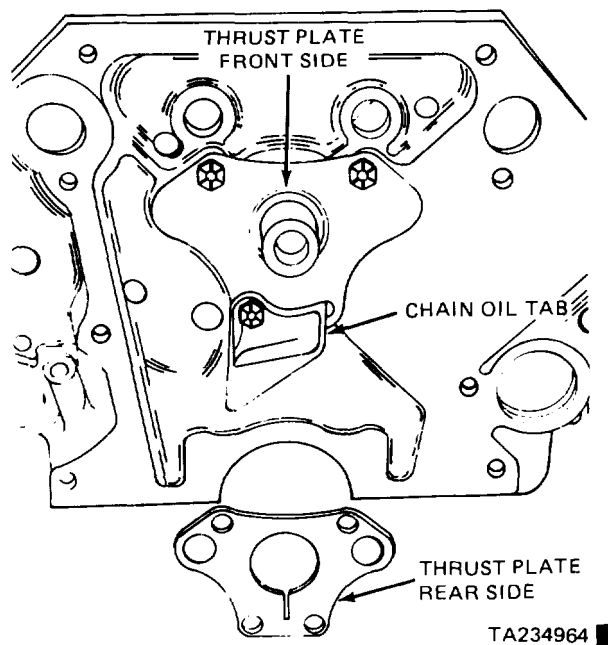

Figure 11-3. Timing Chain Oil Tab Location.
- (25) Timing chain cover.
- (26) Timing chain, sprocket, and fuel pump eccentric.
- (27) Main bearing caps. Identify each cap for correct location and position.
- (28) Crankshaft.
- (29) Camshaft thrust plate. Note the location of the timing chain oil tab (figure 11-3).
- (30) Install a long bolt into the front of the camshaft for easy removal. Remove the camshaft, being careful not to scar the bearings.